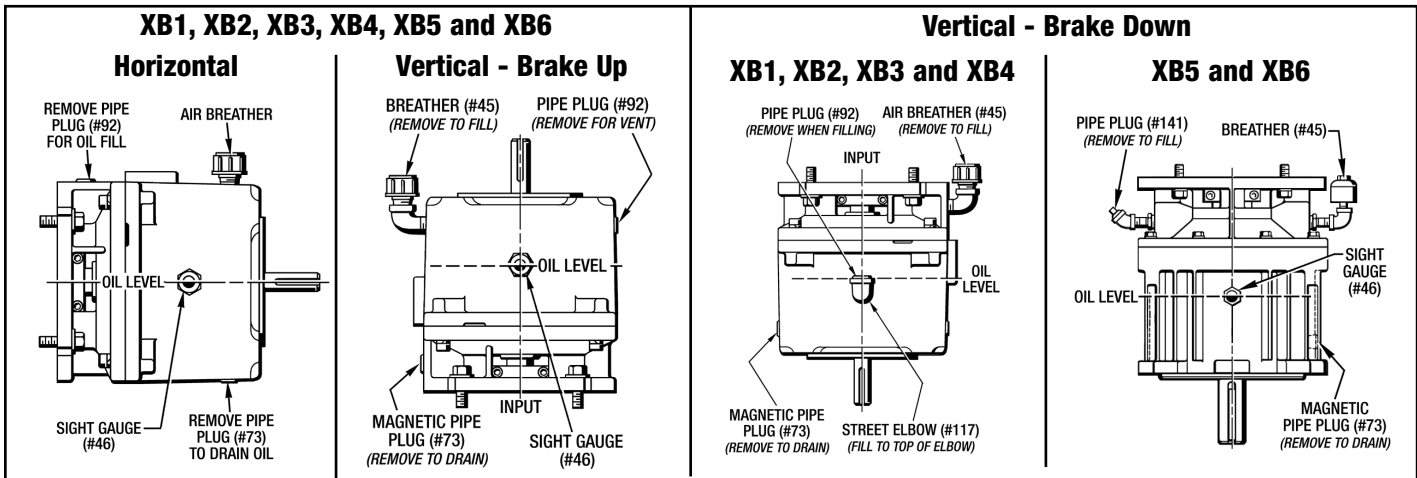

Figure 9 - Lubrication
Note - There are some pipe fittings supplied for Vertical Mounting. This is used for the Air Breather and Fill as shown in *Figure 9*.
The *Posistop* Brake has a fluid sight gauge located on the side of the *Posistop* Brake except if your brake is mounted vertically with the input up (See Figure 9 below). The fluid level is to show at the center of the gauge with the motor turned off.
B. CHANGING THE FLUID (See Figure 9)